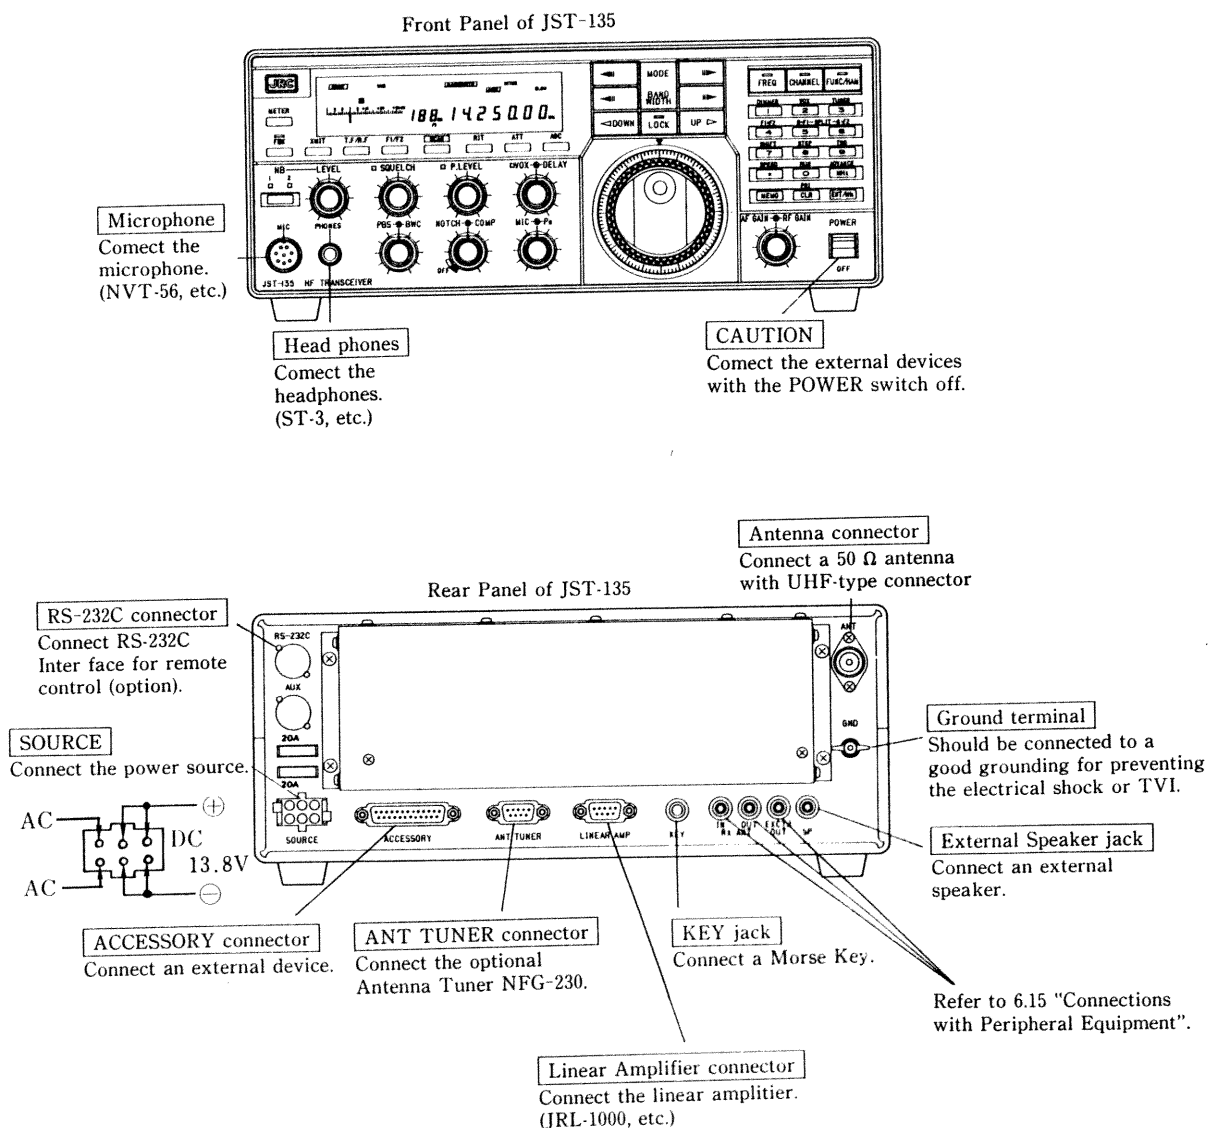

Fig. 3.1 Basic Connections of the Front and Rear Panels
Make basic connections as shown in Fig. 3.1 with the POWER switch ① off on the front panel.